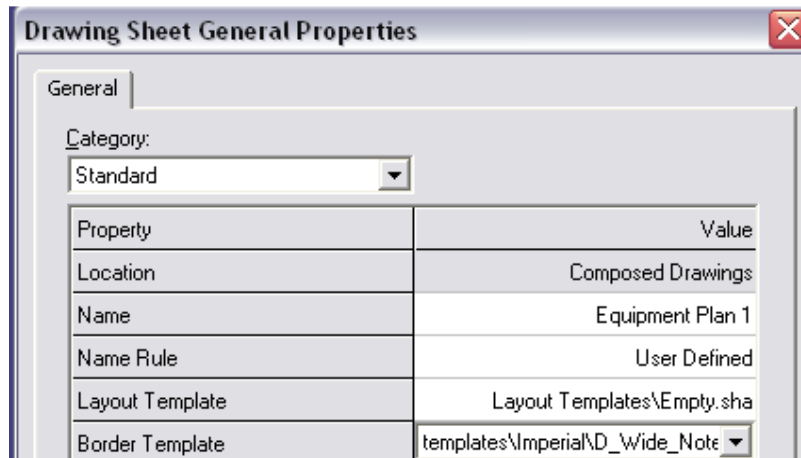

Figure 1: New Drawing Properties
3. Enter values as shown in Figure 1 and click **OK** to create a new drawing. This opens the drawing editor.